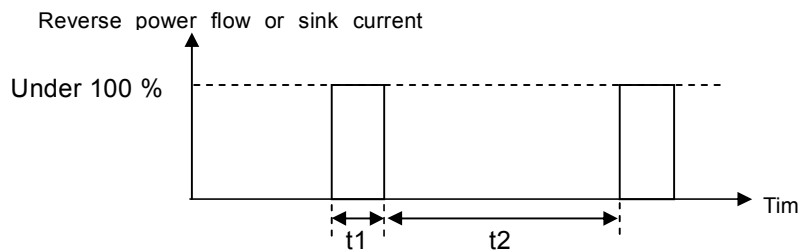

Figure 10-1 Reverse Power Flow Duty or Sink Time Duty
- *6: In the case rated output voltage, 50 Hz or 60 Hz, power factor -1. It may reduce the reverse power flow if ambient temperature is 40 °C or higher. If the output voltage is higher than the rated value, power capacity is limited to 40 % (continuous, 30 °C to 40 °C), 50 % (continuous, lower than 30 °C), and 100 % (reverse power flow time ≤ 180 s, reverse power flow duty ≤ 0.2, 40 °C or lower). About duty, see Figure 10-1. Only for DP series Type R, the reverse power flow is supported.
- *16: In the case rated output voltage, 50 Hz or 60 Hz, power factor –1. It may reduce the reverse power flow if ambient temperature is 40 °C or higher. If the output voltage is higher than the rated value, power capacity is limited to 40 % (continuous, 30 °C to 40 °C), 50 % (continuous, lower than 30 °C), and 100 % (reverse power flow time ≤ 180 s, reverse power flow duty ≤ 0.2, 40 °C or lower). About duty, see Figure 10-1. Only for DP series Type R, the reverse power flow is supported.
*26: In the case rated output voltage. It may reduce sink current if ambient temperature is 40 °C or higher. If the output voltage is higher than the rated value, power capacity is limited to 40 % (continuous, 30 °C to 40 °C), 50 % (continuous, lower than 30 °C), and 100 % (sink time ≤ 180 s, sink time duty ≤ 0.2, 40 °C or lower). About duty, see Figure 10-1. Only for DP series Type R, sink current is supported.